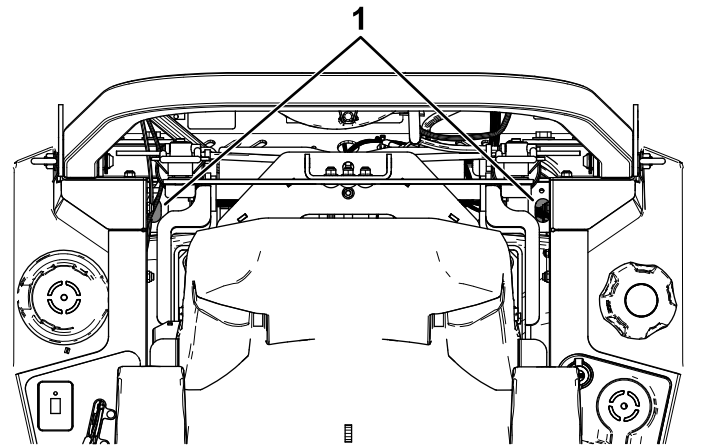

Figure 66
4. Using an extension and 7/16-inch socket, access the vent plug from the top of the machine through the holes near the roll-bar mounts (Figure 66).